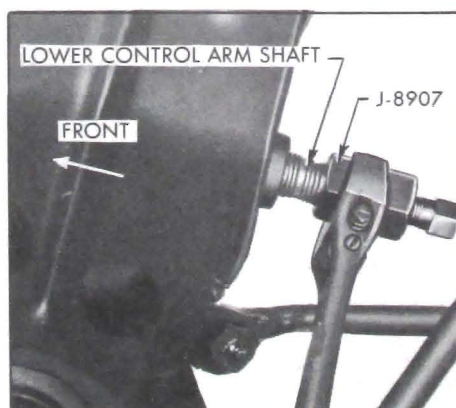

Figure 7-21—Removing Lower Control Arm Shaft
3. Turn Installer & Remover J-8907 clockwise to remove shaft through front of cross member. When shaft threads are free of threads in front suspension cross member loosen lock bolt and remove Installer & Remover J-8907. Remove lower control arm shaft. See Figure 7-21.